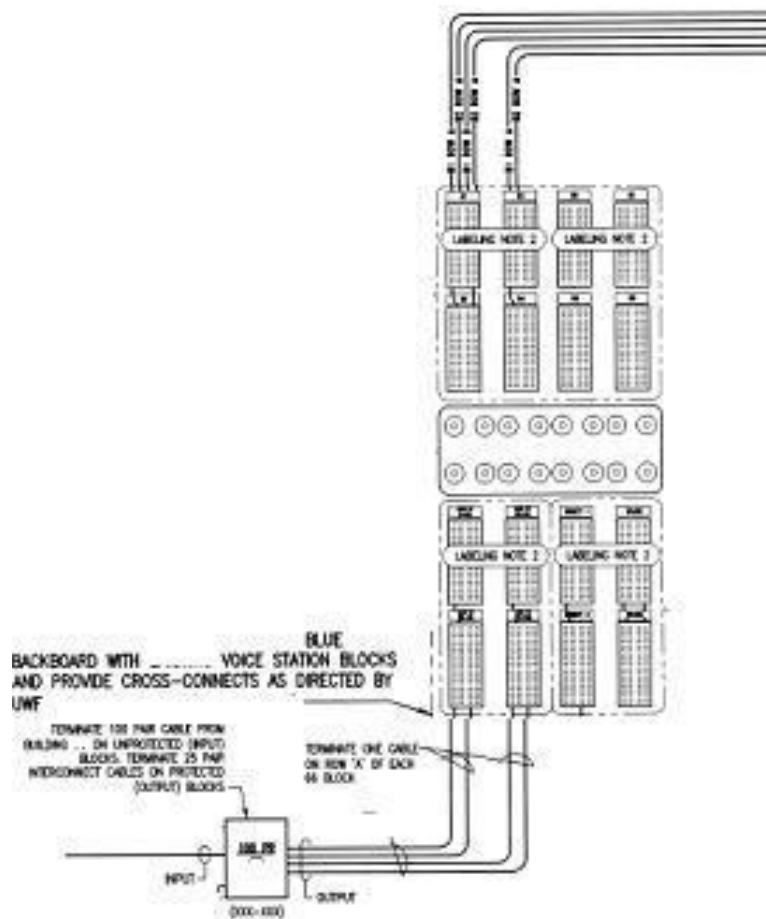

Figure 1
- 2) Cabling installed for voice service shall originate from owner furnished contractor installed Siemens RCM or IPDA shelf or shelves that are connected via 66 Blocks (if applicable). All 66 cross connect blocks shall be mounted on blue backboards with factory wiring spools (mounted on backboards) from end to end of Blue backboard on and/or bottom of backboards as required. See Figure 1 below. The 66 block cross connect field from the rack mounted patch panels to the backboard shall be installed and terminated to accommodate the maximum number of circuit cards in the shelf or shelves providing service as indicated on the drawings. 25 pair Cat 6 cabling shall be provided and installed from the 66 blocks terminating on rack mounted patch panels. Labeling for patch panels, cross connect blocks, protector blocks, etc. shall be engraved composite tags with the appropriate information listed on the tag.
All cross connect blocks shall be mounted on blue backboards with factory wiring spools mounted on backboards from end to end on top and/or bottom of backboards as required. Labeling for cross connects blocks shall be installed over each backboard. Labeling for patch panels, cross connect blocks, protector blocks, etc. shall be engraved composite tags with the appropriate information listed on the tag. If service for one location is provided from another location via outside plant cabling 66 blocks shall be provided, installed, and cross connected for all pairs of the protector block(s) present at each location. See figure 1 above. If service is provided from within the location itself from an internal shelf or shelves 66 blocks shall be provided and installed as described in section 1.10 D for the maximum number of circuit cards for each shelf. Patch Panels installed in equipment racks shall be minimum 48 ports and shall have corresponding 66 blocks provided and installed as described in section 1.10 D, These blocks shall be located next to the service providing blocks. Cross connecting blocks extending service from one location to another shall have fifty percent of the service providing pairs terminated on SLMO circuit cards and fifty percent of the pairs terminated on SLMA circuit cards.